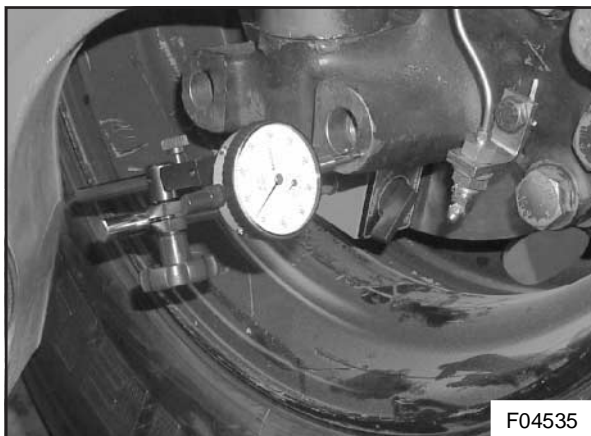

Figure 5 : Correct dial indicator position
2. Attach a dial indicator with a magnetic stand to the inside flange of the brake disc. Position the stylus of the dial indicator at a right angle to the brake disc against the machined face of the lower steering knuckle yoke, near the frontmost threaded hole (see Figure 5).